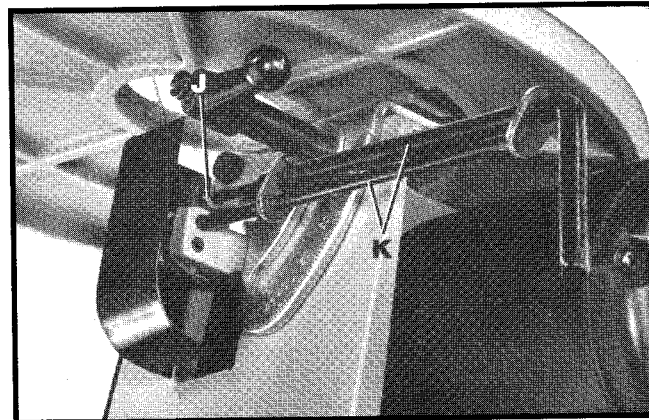
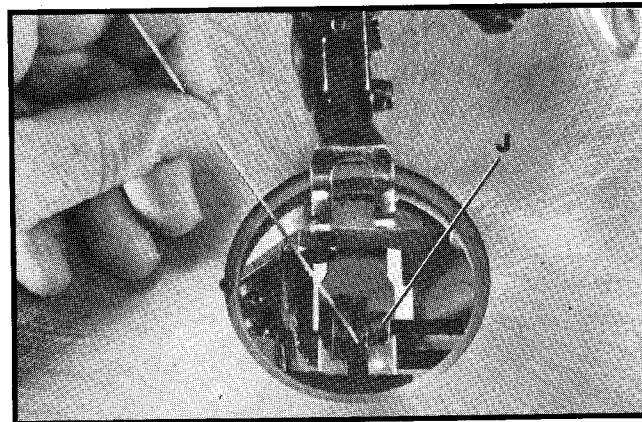

Fig. 26
Fig. 27
5. Fig. 26 illustrates the quickset blade changing wrench (K) engaged with the lower blade holder assembly. Turn wrench counterclockwise to loosen screw (J) Figs. 26 and 27, and remove blade from lower chuck, as shown in Fig. 27.